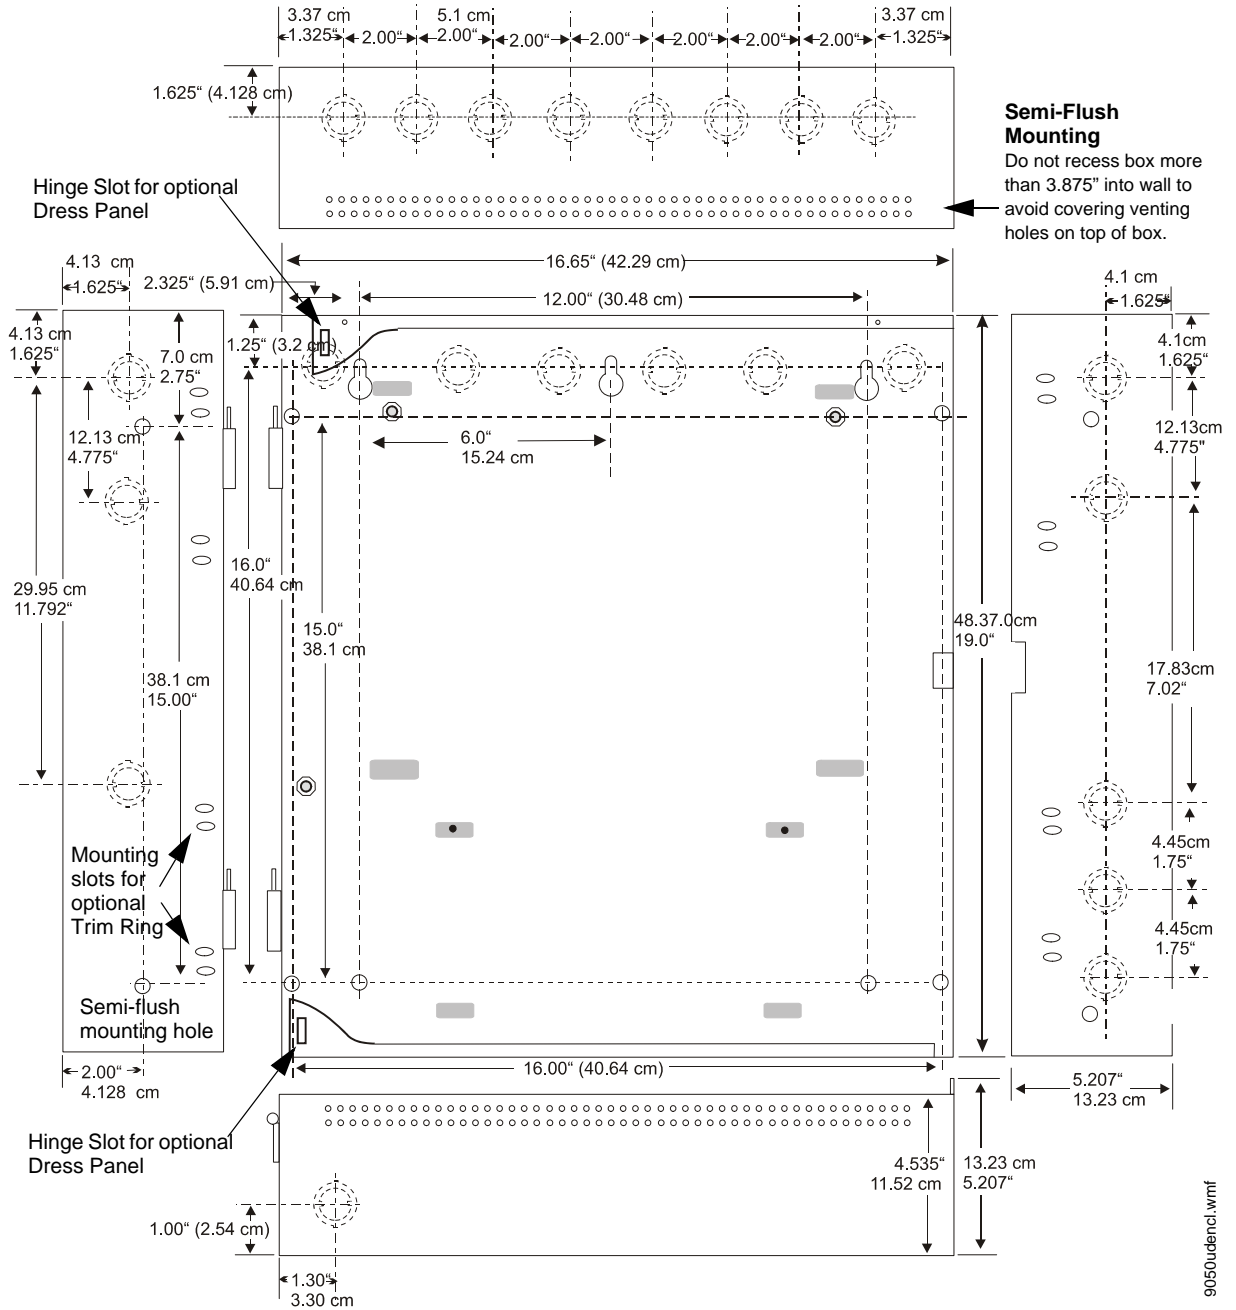

Figure 2.2 ES-50X Cabinet Mounting
1. Mark and pre-drill hole in the wall for the center top keyhole mounting bolt using the dimensions illustrated in Figure 2.2 on page 22.